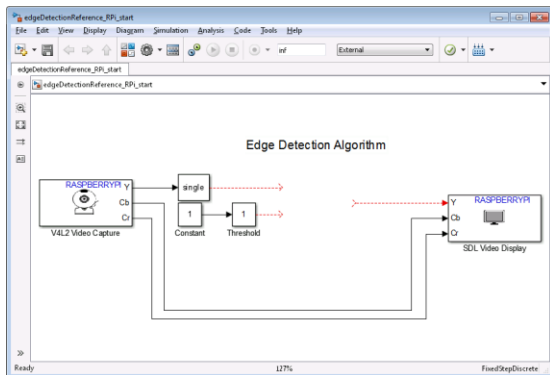

Figure 36: Edge Detection starting model
1. Open the **edgeDetectionReference_RPi_start.slx** by double-clicking the file in the *Current Directory* browser (**Figure 36**).